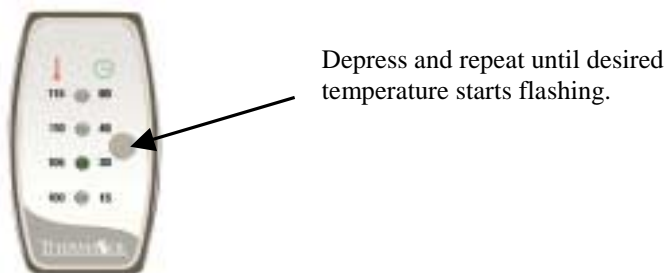

Figure 4
- 3. Changing Session Temperature.** After the time has been selected, the red 100° LED will automatically start flashing. If this is the desired temperature, wait 4 seconds and that temperature will be accepted by the control and the generator will start. If a different temperature is desired, momentarily press the "Control Button". Repeat until the red LED associated with your desired temperature starts flashing. Once the desired temperature is flashing, wait 4 seconds and that temperature will be accepted by the control and the generator will start. (figure 4)